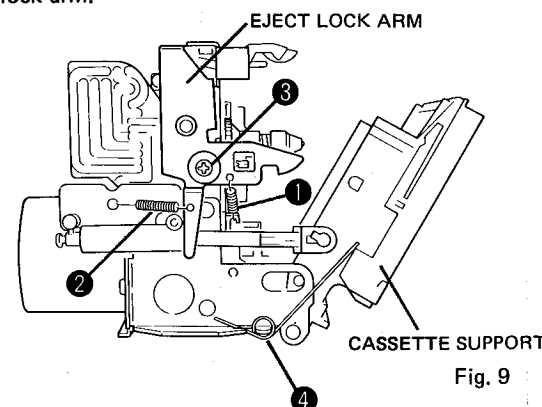
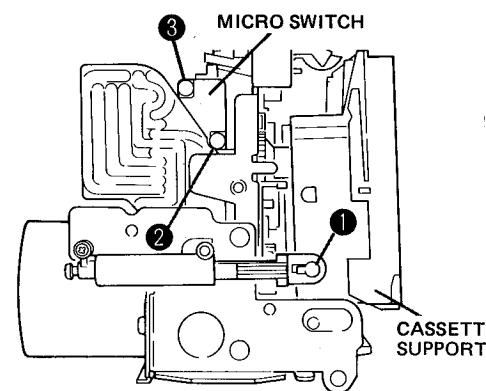

Fig. 9
Fig. 10
2. Remove the springs 1 and 2 in Fig. 9 and remove the screw 3 in Fig. 9 and then remove the eject lock arm.
3. Remove the screws 2 and 3 in Fig. 10 and then remove the micro switch.
2. Remove the spring 4 in Fig. 9 and remove the joint of damper 1 in Fig. 10 from cassette support.